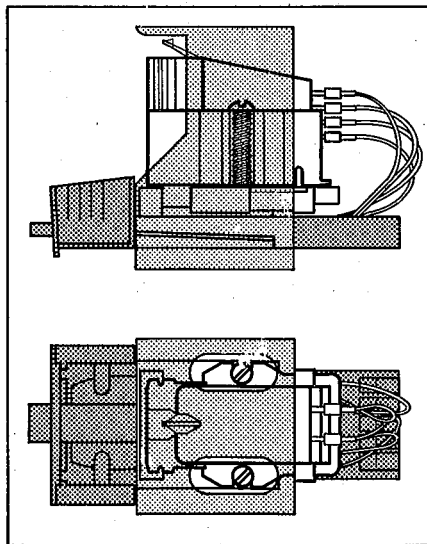

Fig. 11
2. Fasten the cartridge with the help of the mounting hardware supplied with the cartridge holder and the cartridge. Be sure it is located correctly (Fig. 11).